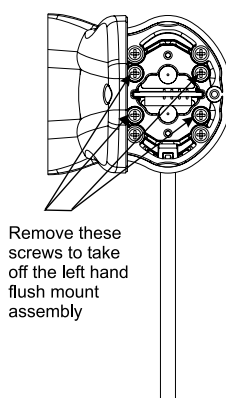

Fig 5-3: Removing the Left Hand Assembly
- 2) Remove the left hand flush mount assembly by unscrewing the 4 screws that fix the end moulding to the aluminium tube. These are located inside at the bottom of the end moulding. See Fig 5-3.